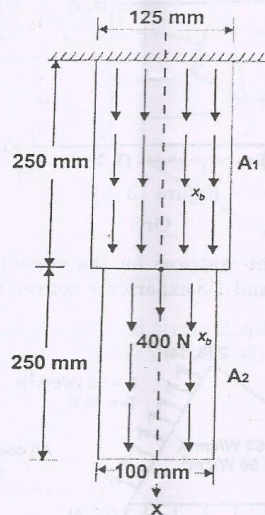

Figure 12 (a)
12. (a) A thin plate of uniform thickness 20 mm, is as shown in Figure 12 (a). In addition to the self-weight, the plate is subjected to a point load of 400 N at mid-depth. The Young's modulus $E = 2 \times 10^5 \text{ N/mm}^2$ and density $\rho = 0.8 \times 10^{-4} \text{ N/mm}^3$. Analyze the plate after modeling it with two elements and find the stresses in each element. Determine the support reactions also.